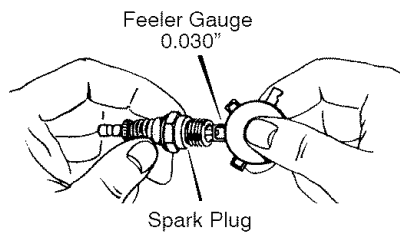

Figure 19
7. Set the gap between the electrodes of the new spark plug at 0.030 inch (Figure 19).